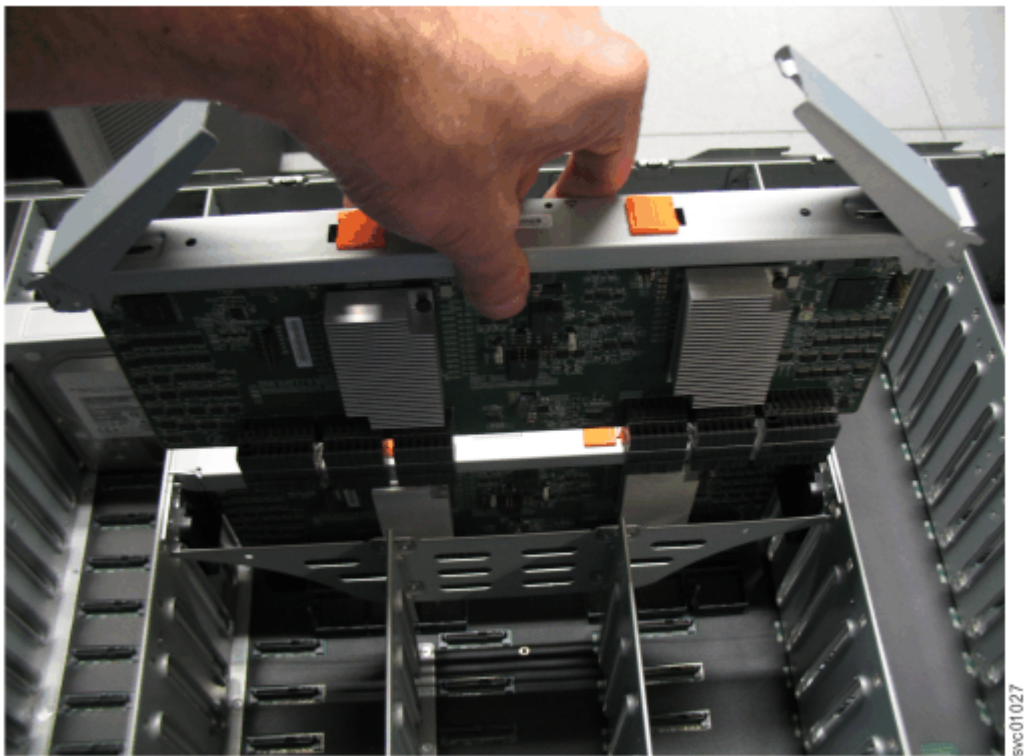

Figure 67. Replace the secondary expander module
4. Align the edges of the secondary expander module carefully in the guide slot in the enclosure, as shown in Figure 67 on page 65.